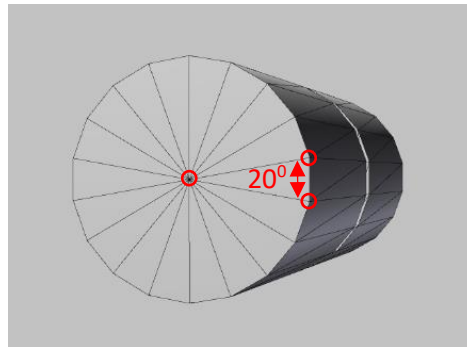

Figure 14
- 4) If the first point is from the cycle, then we make triangles of 3 points (the first point added in paragraph 1 and two points with an angle of 20 degrees), Figure 14.